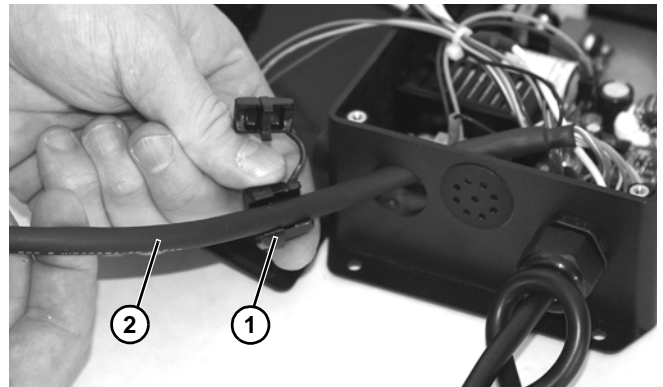

Figure 43
11. Install new cord retainer (**Figure 43, item 1**) onto cord (**Figure 43, item 2**).